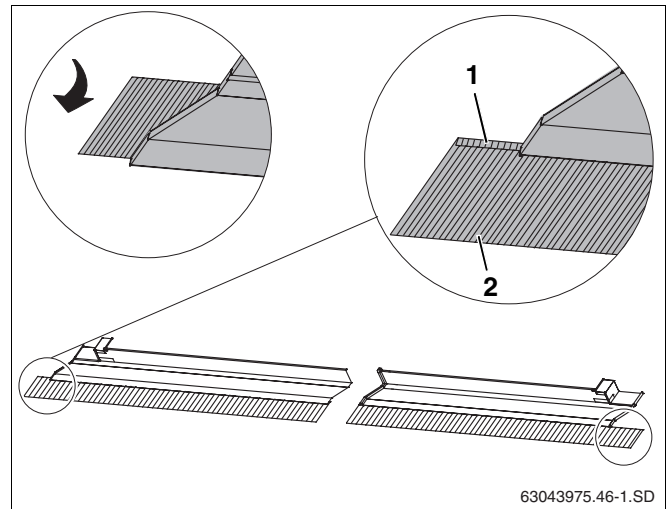

Fig. 41 Laying flashing
- ▶ Bend flashing for all facing panels towards the front (Fig. 41, **Item 2**).
- ▶ Likewise, lay the ends of the upper outer facing panels (Fig. 41, **Item 1**) towards the front.